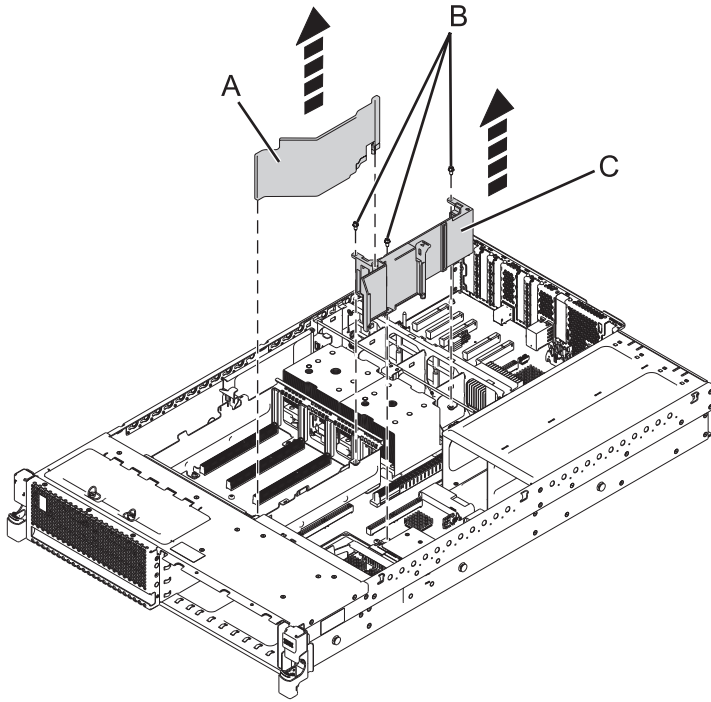
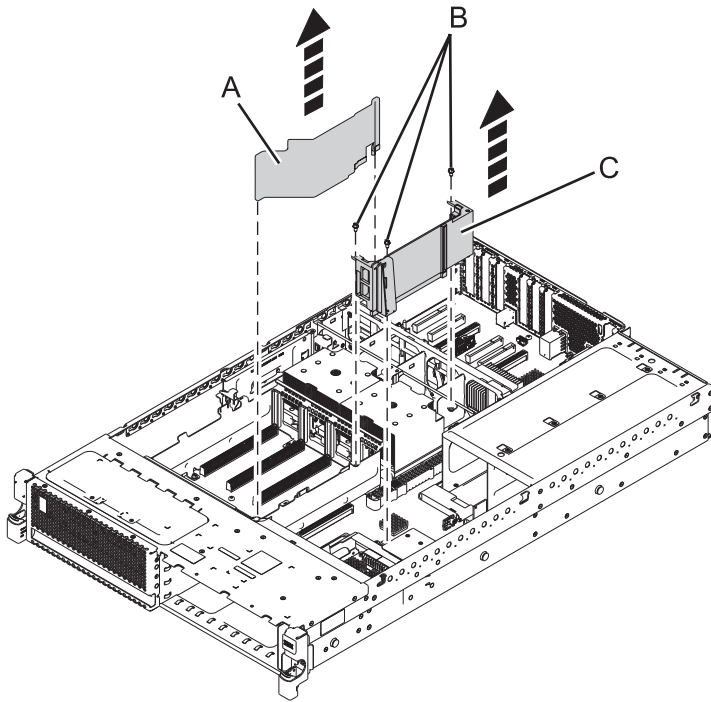

Figure 5. Removing the voltage regulator guide and air divider from the 8231-E2B
Figure 6. Removing the voltage regulator guide and air divider from the 8231-E1C, 8231-E1D, 8231-E2C, 8231-E2D, or 8268-E1D
21. Remove the voltage regulator guide and air divider. See Figure 5 on page 10 or Figure 6 on page 10.